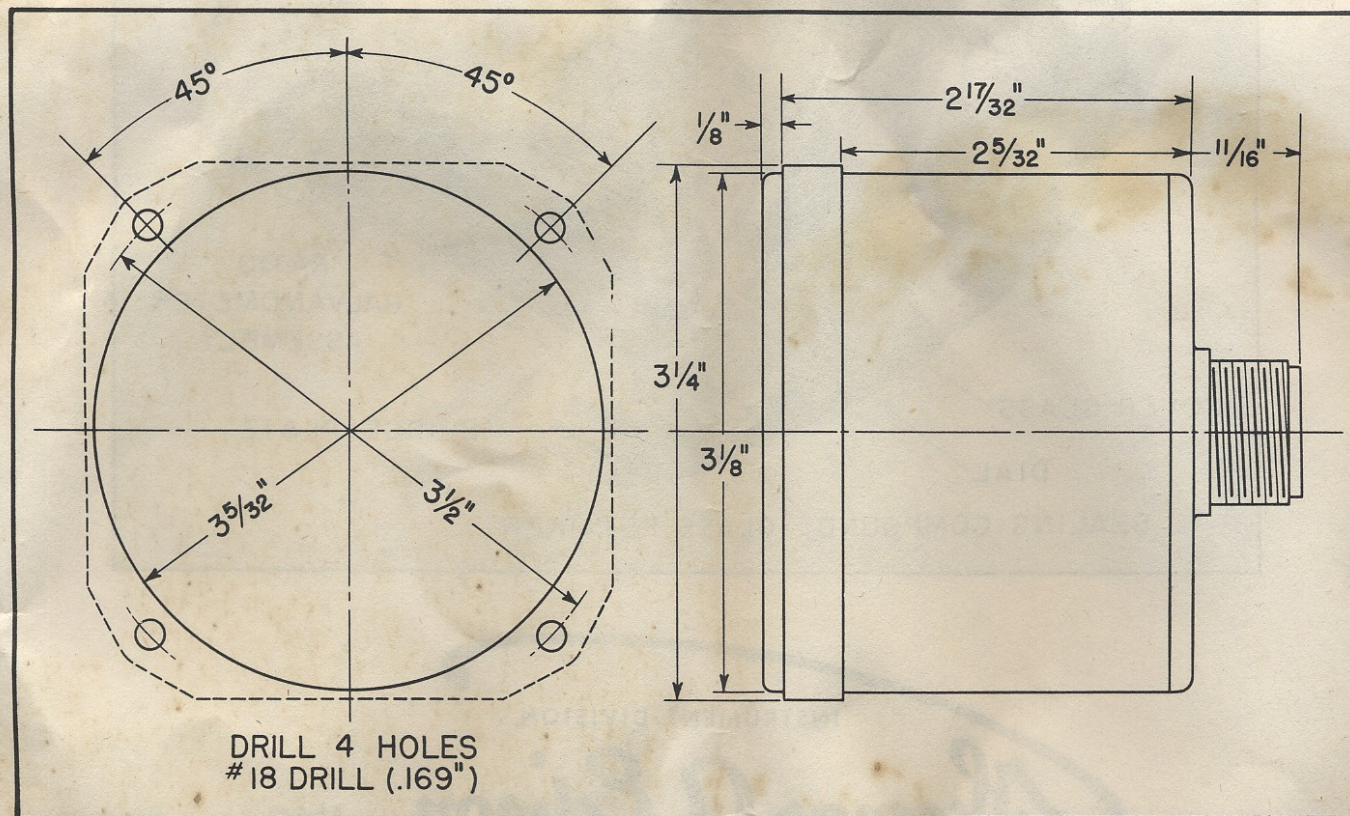

Figure 1—Mounting Dimensions for Indicator
*b. PANEL CUT-OUT.*—The instrument panel of the airplane must be suitably cut out at the designated location for the installation of the indicator. (See figure 1.)